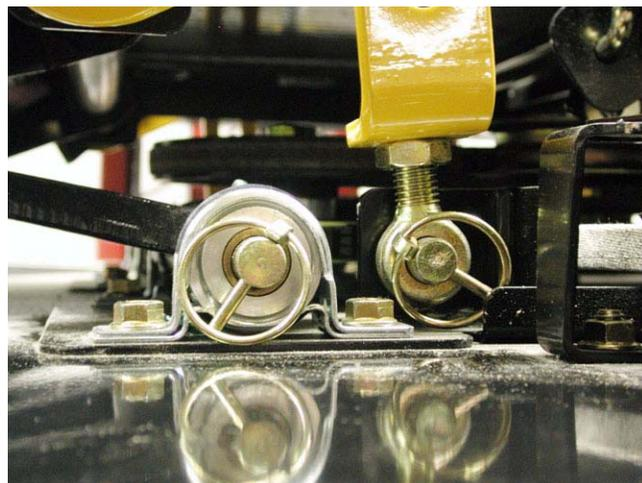

Figure 8.5
8.5. Heavier hardware connects the deck to the hangers. See Figure 8.5.